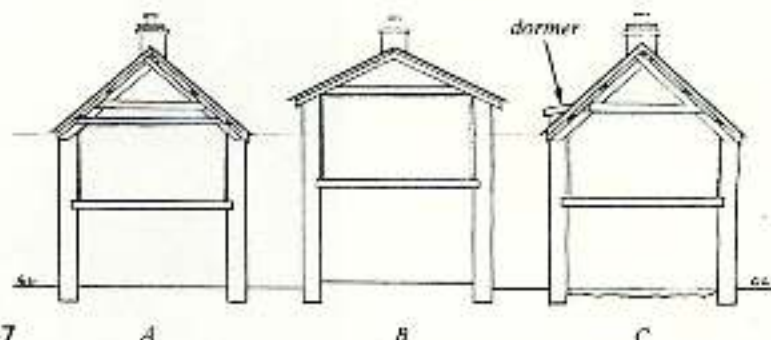

Fig 47
1. Don't flatten out the roof slope (the pitch). Fig 47
3. Do use dormer windows to improve lighting and ventilation of top floor rooms, if it will avoid raising the original roof line. Fig 47